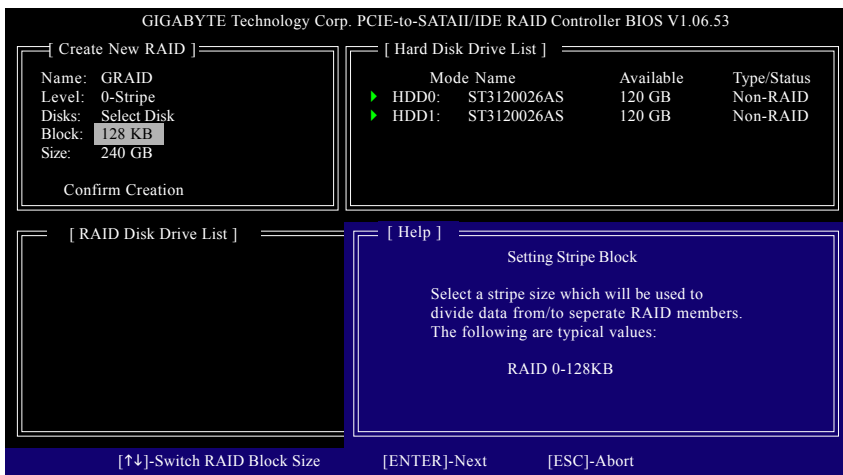

Figure 7
- Set Block Size (only for RAID 0):** Under the **Block** item, use the UP or DOWN ARROW key to select the block size (Figure 7), ranging from 4K to 128K. Press ENTER when finished.